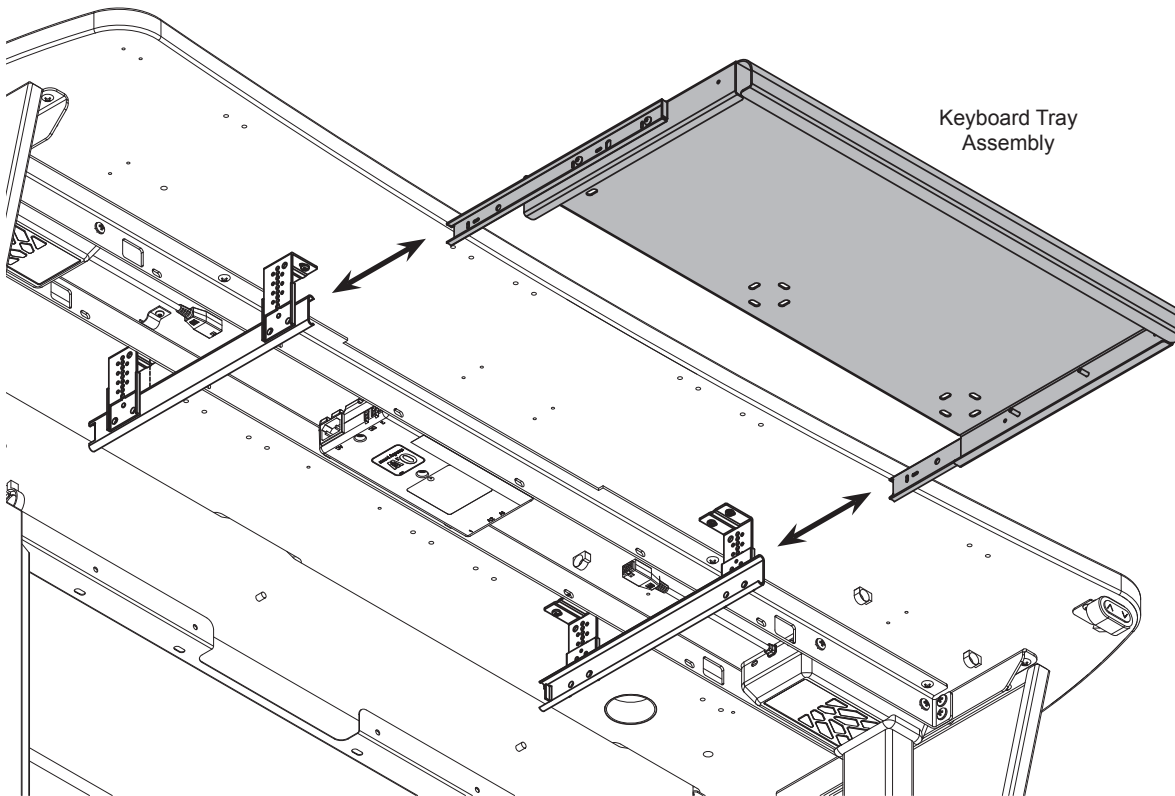

Figure 4
1. Align the keyboard tray assembly with the installed slides and slide together. **Figure 4.**
3. With the keyboard tray pulled out, securely tighten the (4) loose worksurface slide screws from step 3.3.